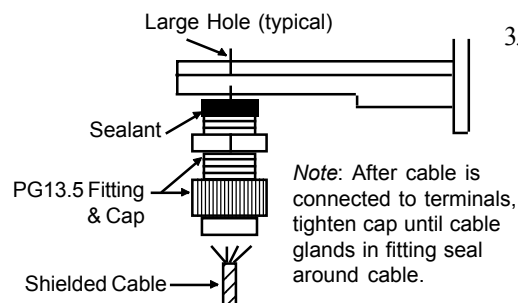

Figure 5-38. Inserting Shielded Interconnect Cable through PG13.5 Fitting and Cap
7. Connect the wires from the L-Cell to the selected TB3 terminals: black wire to B, white wire to W, and red wire to R. Fig 5-38.